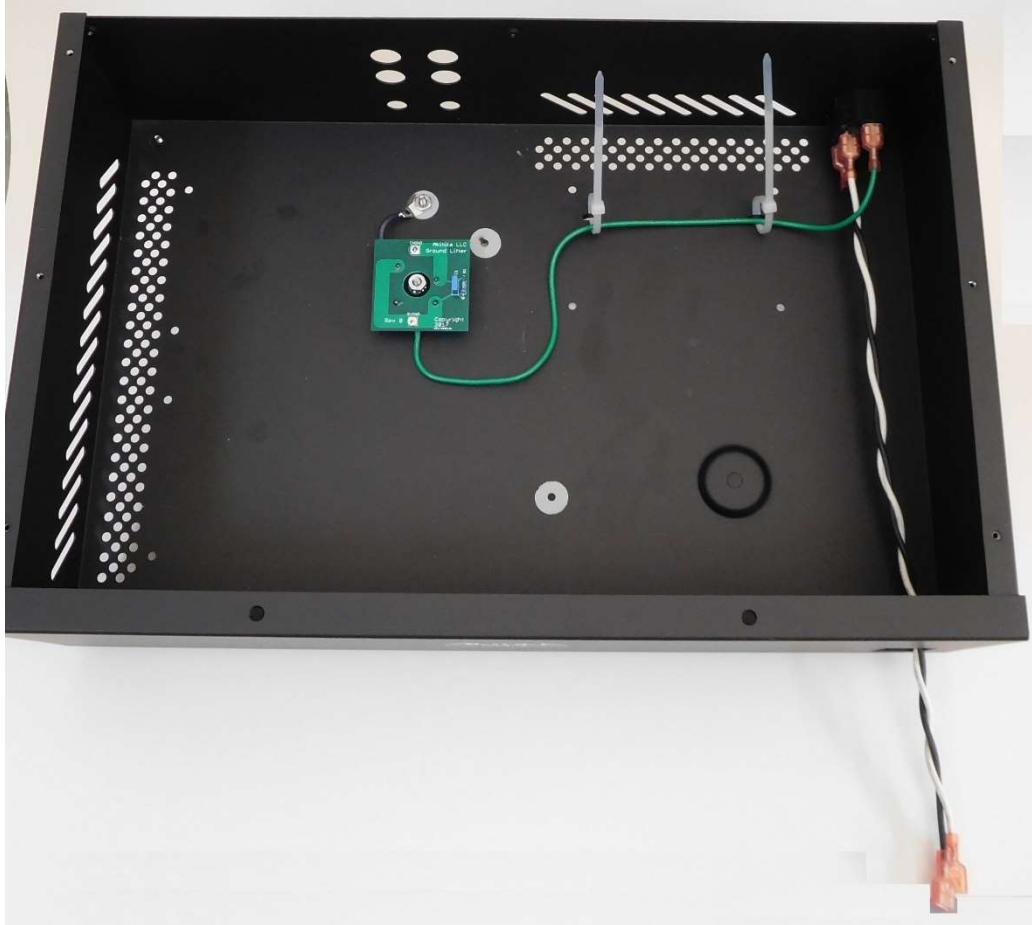

Figure 30-Power wiring with IEC connector installed into chassis
3. Starting outside the chassis, insert the black and white wires (already connected to the IEC power connector) into the hole in the back-right corner of the chassis as shown in Figure 30. **Make sure that the writing on the power connector is right side up!** Push until it clicks in place. It's easy to get it in, and tough to get it out, so double check the orientation before you install it.
4. Dress the black/white jacketed pair with FASTONs as shown in Figure 30. Insert the free end with the FASTONs through the rectangular switch hole in the front panel.
6. Dress the green wire as shown in Figure 30 next to the tie down points. *Loosely loop cable ties as shown. We will tighten them later.*